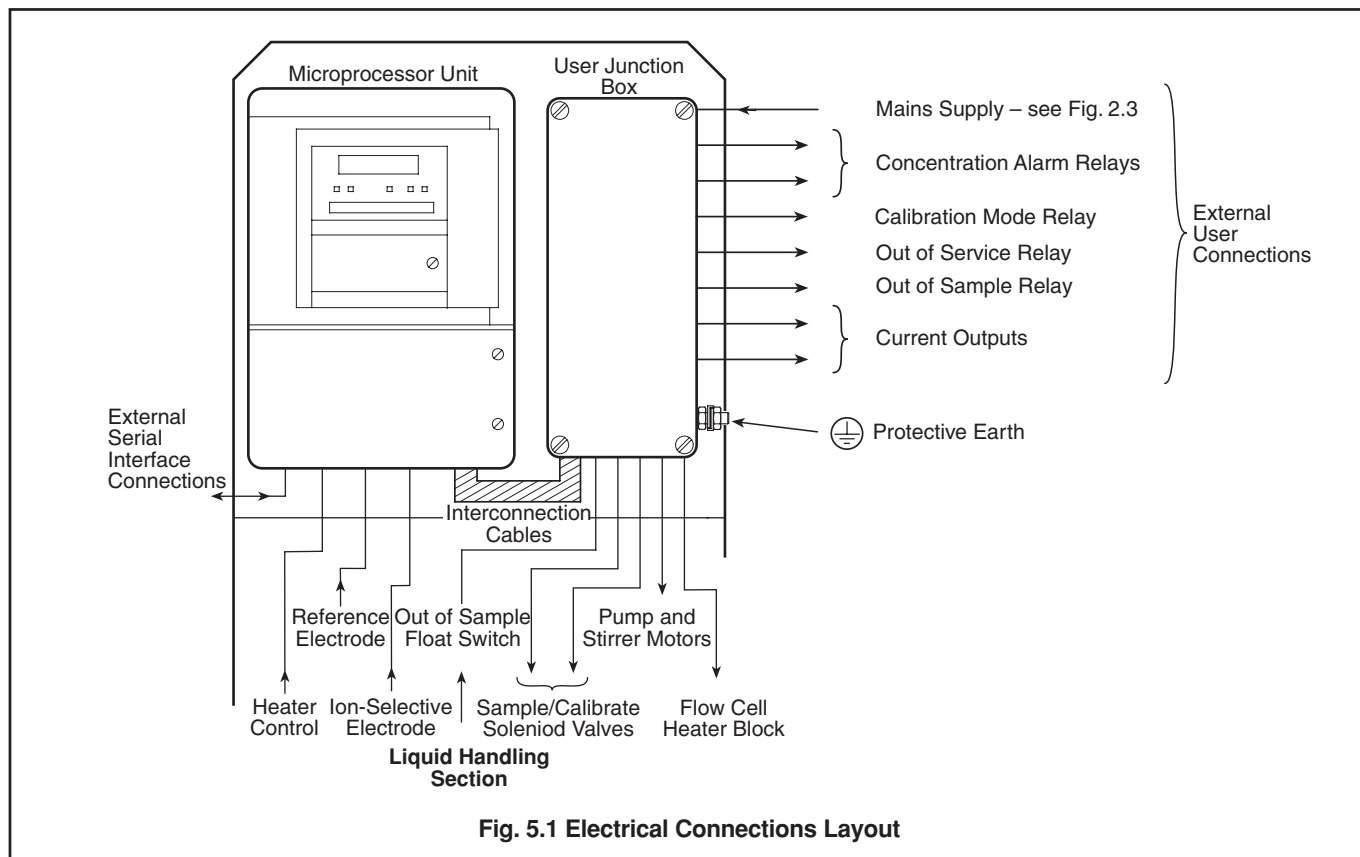

Fig. 5.1 Electrical Connections Layout
5.1 Electronic Layout – Fig. 5.1